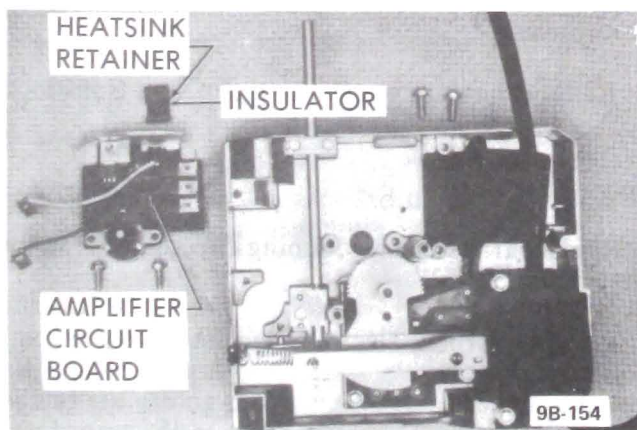

Figure 9B-238 Amplifier Circuit Board - Removed
1. Replace electrical connector to amplifier terminals on circuit board and place circuit board back into the programmer. See Figure 9B-238.